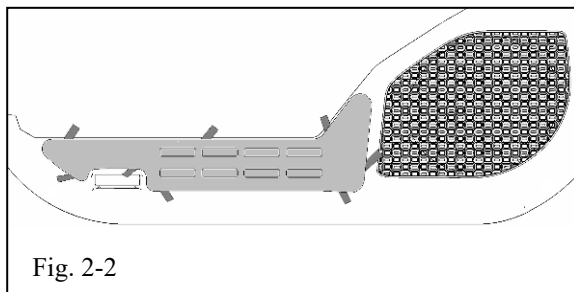

Fig. 2-2
- (c) Align the protector with the door pocket top, cutout features and front of the door near the speaker. Press into place. (Fig 2-2).